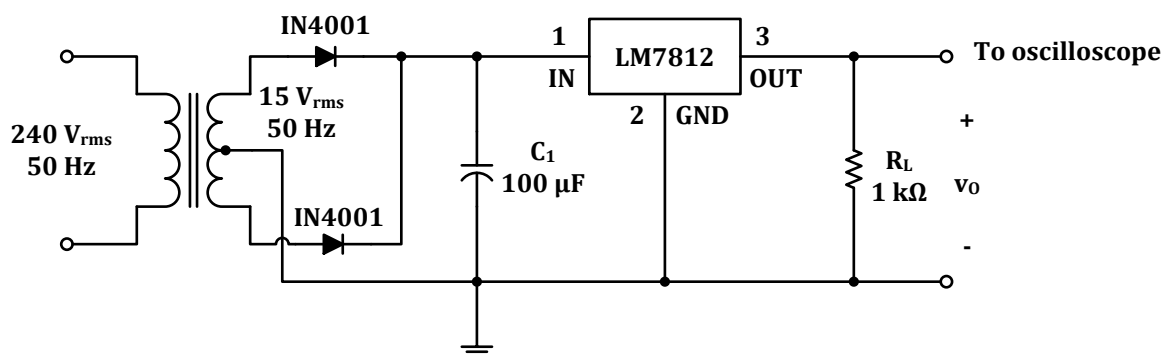

Figure 1.4
4. Replace the Zener diode with a LM7812 voltage regulator as shown in Figure 1.4. No series resistor is necessary with the IC regulator.